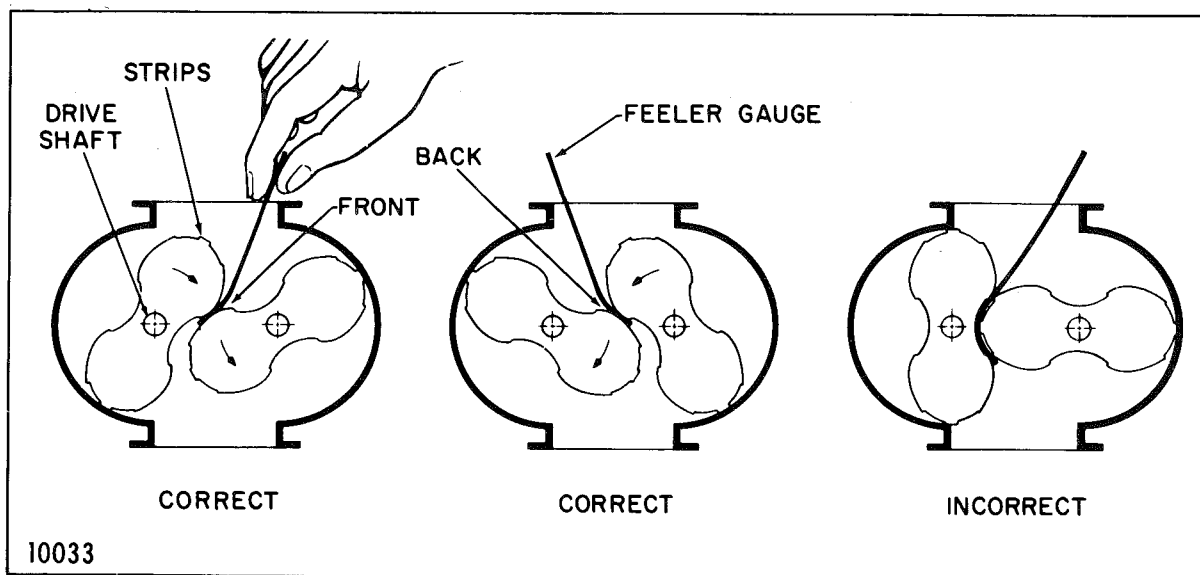

Figure 6 — Identification of Front and Back Impeller Clearances, and Method of Using Feeler Gauge
5. Make sure impellers are in correct position as previously marked. If blower is an RAI-65, place 0.003 in. (.08 mm) feeler between the headplate and the ends of the impellers at the drive end. This will prevent damage to the impeller hubs when driving the gears. If blower is an RAI-58, loosen all cap screws (32) in drive end covers (5) and (6). This will allow the impellers, which have no hubs in this case, to move solidly against the headplates and prevent damage to drive end bearings. In either case, the impellers cannot now be turned.
8. Remove the impeller blocking feelers on an RAI-65, or tighten both bearing caps on an RAI-58. Rotate the impellers to make sure they do not bump, then measure front and back lobe clearances with feelers when impellers are in positions shown in Figure 6. These two clearances should be equal when the impellers are properly "timed", and should be within the limits given in Table 5 or 6.